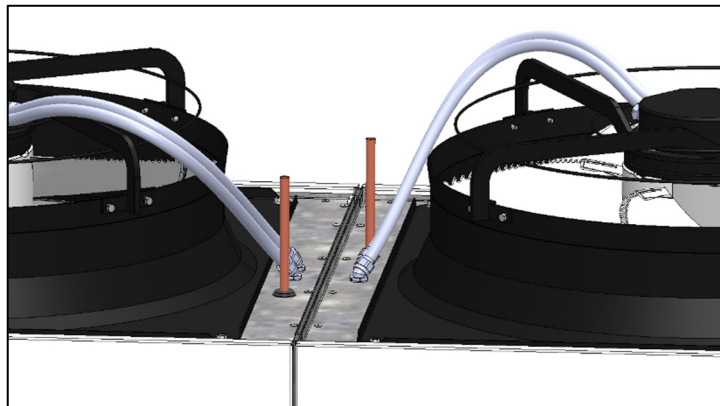
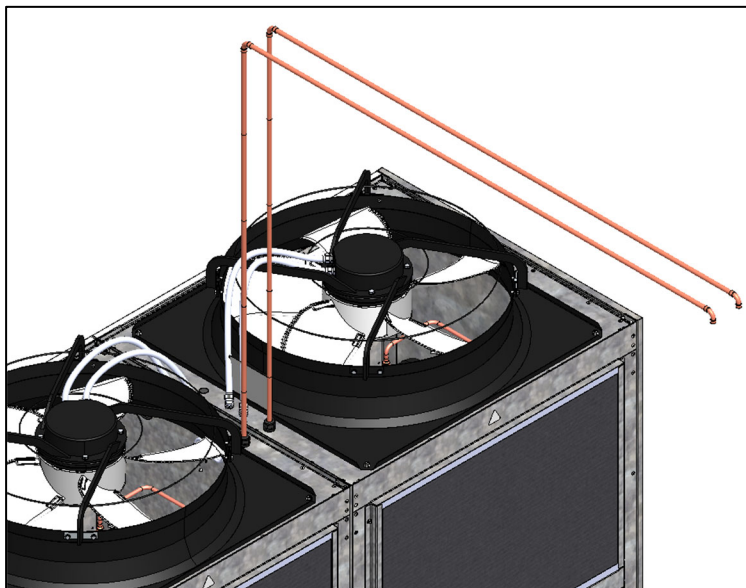

Figure 4 Pressure Relief Valve Connections
Figure 5 Example of one option of PRV outlet piping
- On top of the chiller are two pressure relief valve outlets each are 5/8" outer diameter and made of copper. Joints must be either brazed, flared, mechanical, press-connect, soldered, threaded or welded. All materials and joining methods used must be rated for refrigeration. (Figure 4 & Figure 5)
- Where necessary, provisions shall be made to protect piping from damage resulting from vibration, expansion, contraction, and structural settlement. The representation in (Figure 5) is reference only for PRV outlet piping and is not meant to indicate structural piping support.